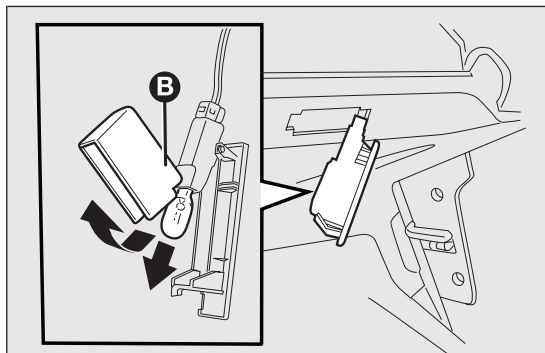

fig. 181
- ❑ open protection B fig. 181 and replace the snap-fitted bulb;